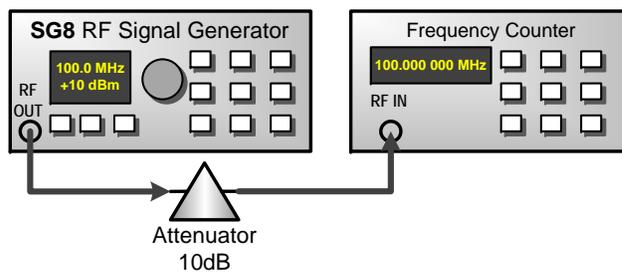

Figure 6: Frequency accuracy test setup
1. Connect the instruments as shown in figure 6.